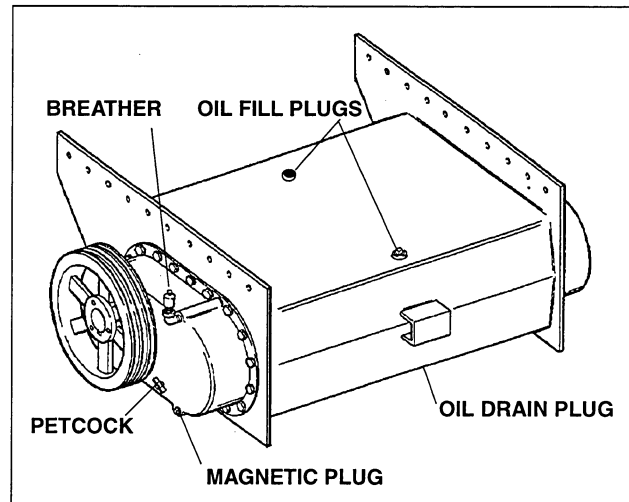

Figure 4-4. Changing Oil
2. Remove oil drain plug and allow oil to drain into a suitable container. Reinstall oil drain plug. See Figure 4-4.